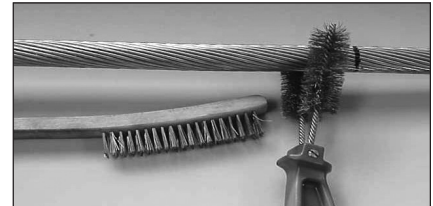

FIGURE 2: Clean a distance of at least $\frac{3}{4}$ the distance of the aluminum dead end body.
2. Prior to making connection, the outer strands of the conductor must be cleaned with a wire brush or abrasive cloth (**Figure 2**).